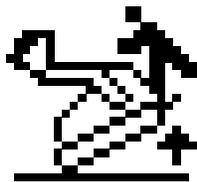

Figure 30
When you extend the loader arms to the maximum reach for the arm height and load weight, the InfoCenter will display the Smart Load icon (Figure 30) and flash the indicator light, an alarm will beep, and the arms will stop extending.
4. Use hand tools to rotate the hardware clockwise until the brake is released or you cannot rotate the screw (Figure 30).